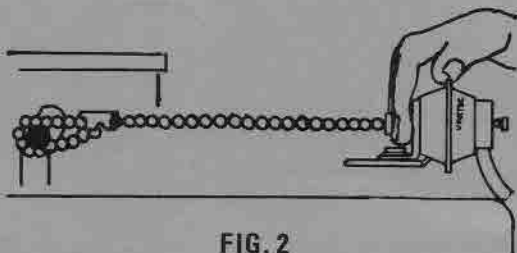

FIG. 2
6. The fine speed adjustment ⑧ will be made after the engine is running with the thumb screw adjustment.
7. Check for proper installation by manually activating the throttle actuator (see FIG.2) and completely opening the throttle (see FIG.3).